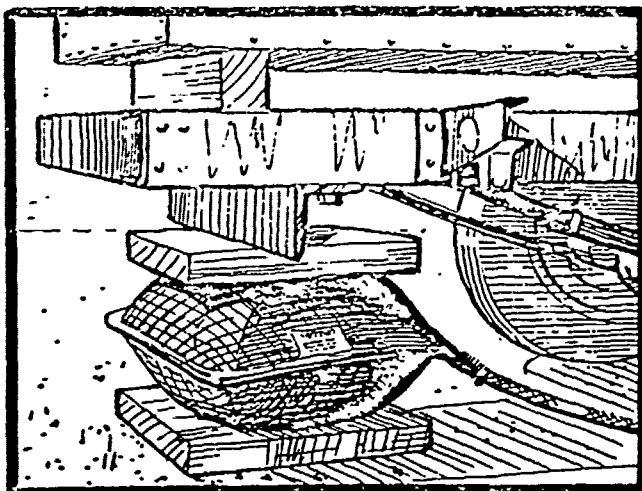

FIG. 18
6. Never inflate bags against sharp objects or on a heated surface over 200 degrees fahrenheit. When it is necessary a block can be placed between a hot or sharp surface to protect the bag (Fig. 18).